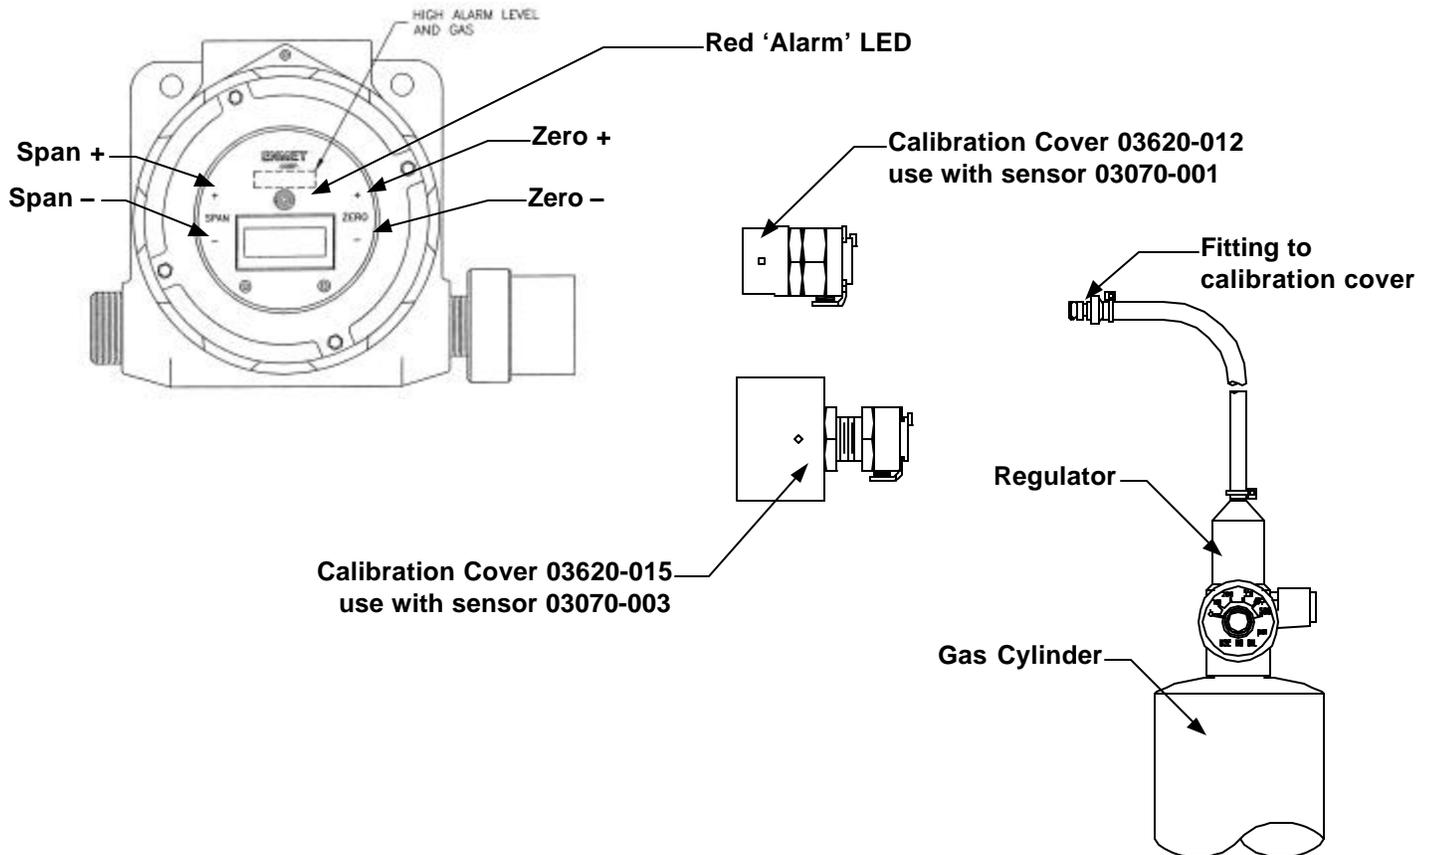

Figure 3: Catalytic Combustible Gas Sensor/Transmitter
Do Not Adjust The Span Potentiometer Without Calibration Gas Applied to The Sensor; if this is done, the S/T is rendered uncalibrated and incorrect. Magnetic switches control the span and zero potentiometers. The switch locations are indicated by “+ and – Span” and “+ and – Zero” on the display panel per **Figure 3**; “+” increases the value and “–” decreases it. Incremental changes in span and zero can be obtained by momentarily putting the end of the magnet in proximity to the switch and then removing it; when the magnet is held in proximity to the switch and not removed, the switch indexes continuously to the end of its range.
1. Apply the calibration gas associated with the S/T to the sensor. See to **Figure 3**.